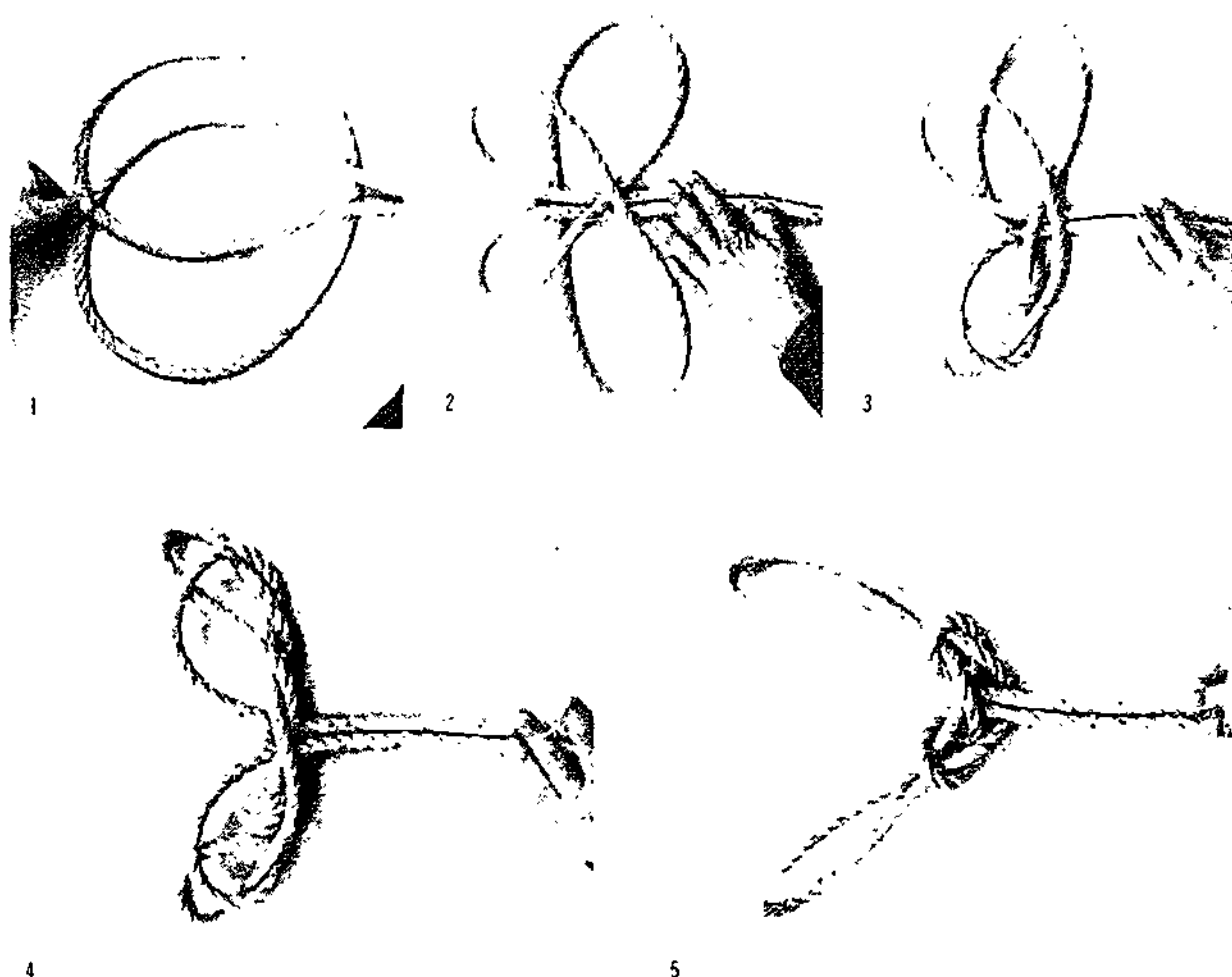

Figure 7-14. Tying a Spanish Bowline
- 5 A **Spanish bowline** forms two loops or "rabbit ears" providing a double sling for lifting round objects or for rescue work. Figure 7-14 illustrates the steps in tying a Spanish bowline.